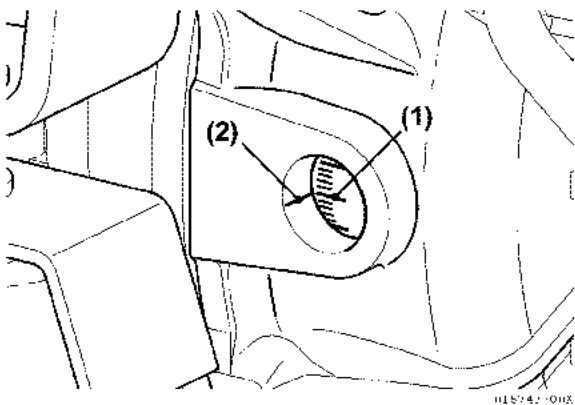

Figure 6-62
2. Rotate the flywheel until the target timing mark (Figure 6-62, (1)) and the timing reference mark (Figure 6-62, (2)) on the flywheel housing are aligned. **NOTICE:** Do not rotate the crankshaft during the remainder of this procedure.